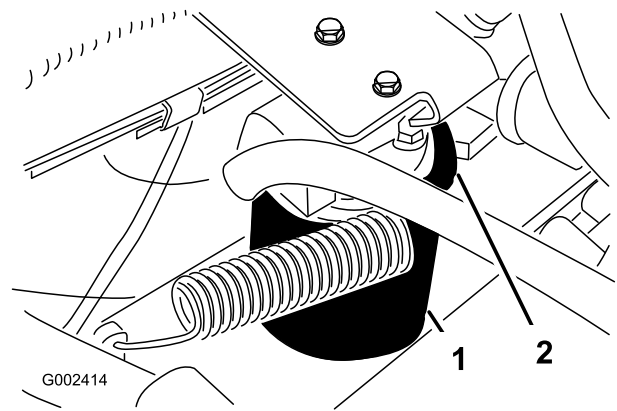

Figure 59
2. Clean area around filter mounting area. Place drain pan under filter and remove filter (Figure 59).